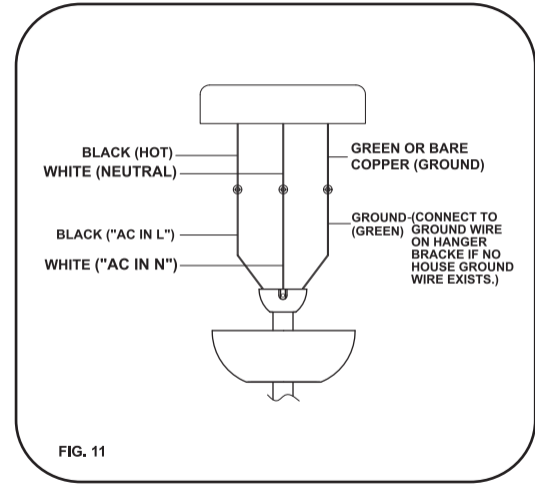

FIG. 11
Step 1. Motor to House Supply Wires Electrical Connections: Connect the WHITE wire (Neutral) from the outlet box to the WHITE wire marked 'AC in N' from the motor. Connect the BLACK wire (Hot) from the outlet box to the BLACK wire marked 'AC in L' from the motor. Secure all wire connections with the plastic wire nuts provided. (Fig. 11)
Step 2. If your outlet box has a GROUND wire (Green or Bare Copper) connect this wire to the Hanger Ball and Hanger Bracket Ground wires. If your outlet box does not have a Ground Wire, then connect the Hanger Ball and Hanger Bracket Ground Wires together. Secure wire connection with the plastic wire nut provided. (Fig. 11)